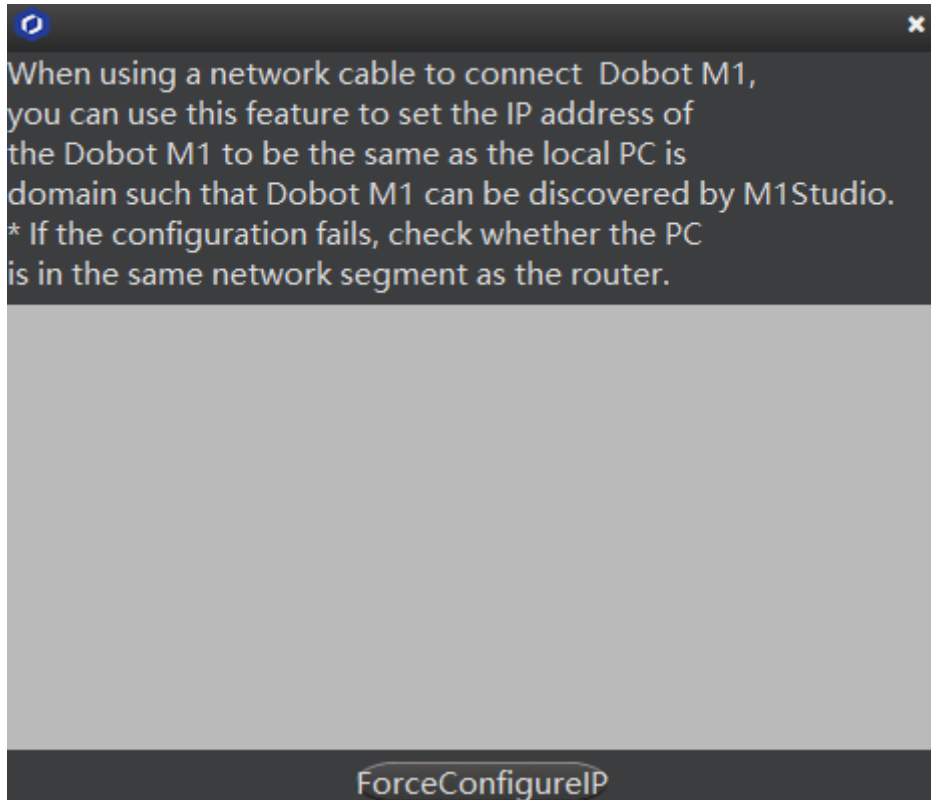

Figure 5.14 Forced configuration
Step 3 Click **Force Configure IP**, the IP address of Dobot M1 will be forced set in the same network segment of the PC, as shown in Figure 5.14.